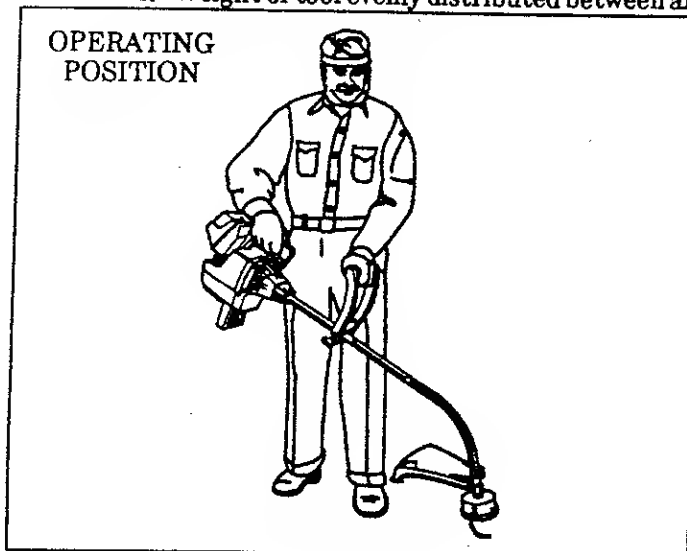

Figure 7
- a. **Before starting the engine**, stand as shown in Figure 7 and check for the following: